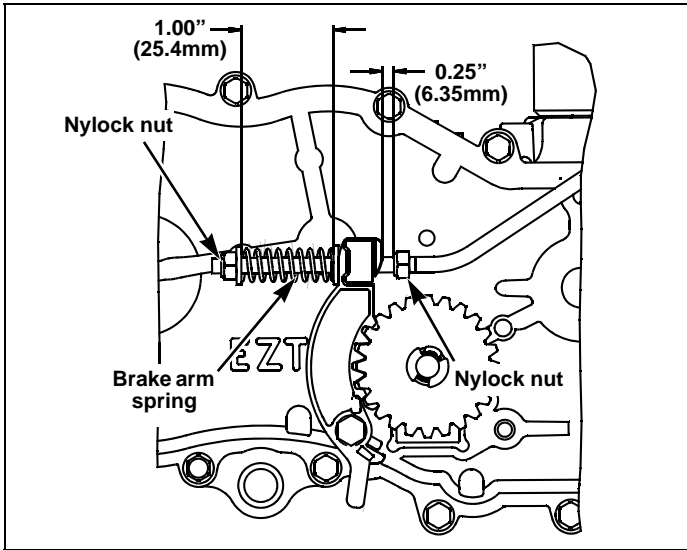

Figure 4-7
2. On one side measure the park brake spring. It should be compressed to 1.00" (25.4mm). If it is not, adjust the nylock nut until the proper spring compression is achieved (Figure 4-7).